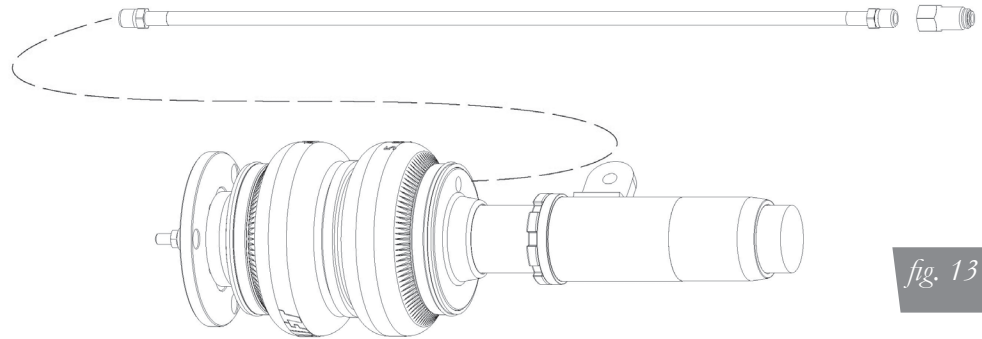

fig. 13
1. Begin by installing the leader line into the air spring. Wrap the threads of the leader hose with thread sealant. Tighten the appropriate fitting to the leader line 1 3/4 turns beyond hand tight. Tighten the leader line into the air spring 1 3/4 turns beyond hand tight (fig. 13).